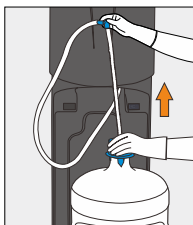
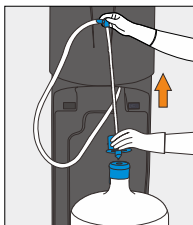

Figure 15
Figure 16
5. Carefully remove the Bottle Adaptor assembly (Spike Cap and tube) from the empty bottle (Figure 15), by raising the end of the tube into the Spike Cap.(Figure 16)